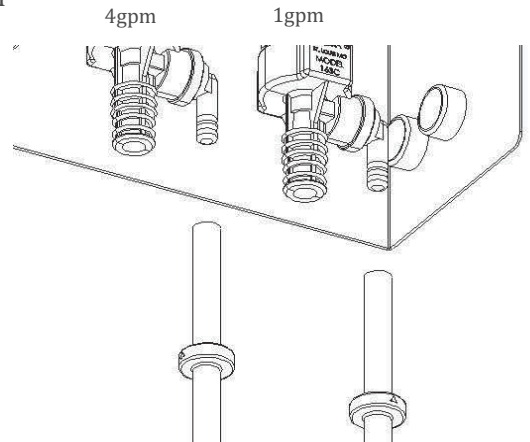

Figure 4
4. Outlet: (refer to Figure 4)